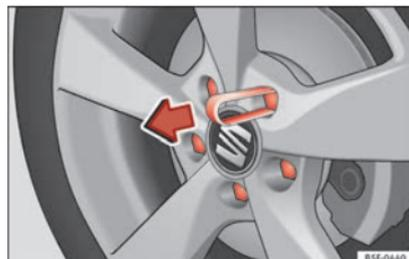

Fig. 63 Wheel: wheel bolts with caps.
- Fit the plastic clip (vehicle tools) over the cap until it clicks into place » » Fig. 63.